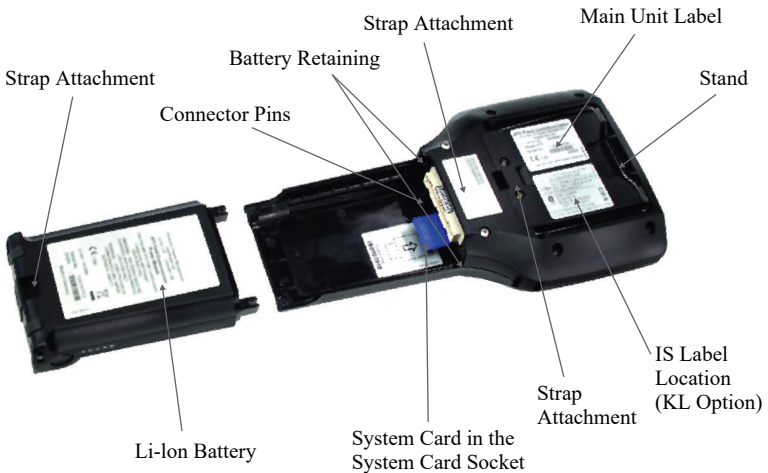

Figure 2 Back of the 475 Field Communicator
3. With the battery removed, slide the Secure Digital System Card (labeled System Card), with the card contacts facing up, into the System Card socket until it clicks. The System Card socket is spring-loaded. See Figure 2 for the System Card socket ocaation. The System Card is not locked into the System Card socket in Figure 2.
All 475 Field Communicators have the main unit label (see Figure 2). Intrinsically Safe (KL option) 475 Field Communicators also have a label opposite the main unit label. If the 475 Field Communicator does not contain this label (NA option), it is not Intrinsically Safe.